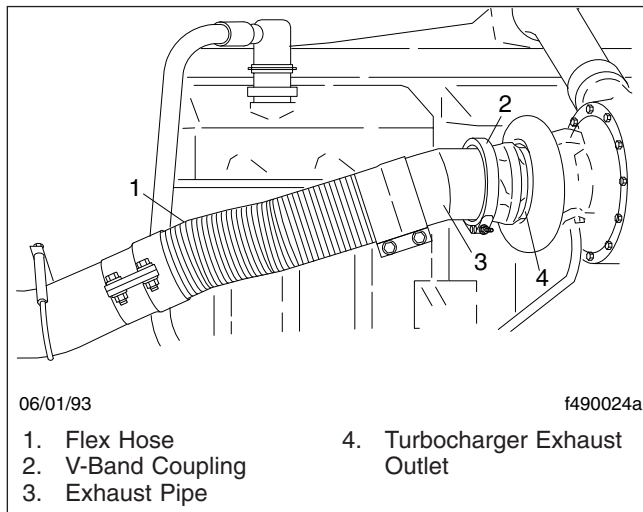

Fig. 6, V-Band Coupling and Flex Hose
- Inspect the exhaust flex hose (see Fig. 6) for leakage, wear, or damage. Replace with new parts if replacement is needed.
- Check for leakage at the V-band coupling, which attaches the exhaust pipe to the turbocharger exhaust outlet. See Fig. 6.